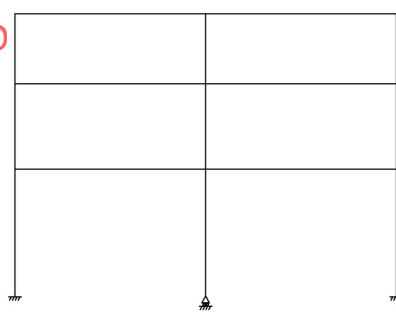

Fig. Q. 32
32. The degree of static indeterminacy of plane frame shown in Fig. Q. 32 is